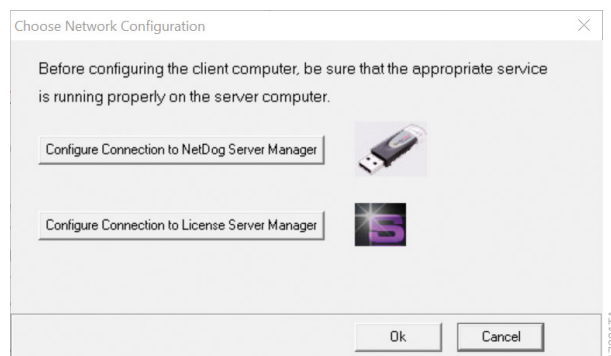

Figure 42. 'Choose Network Configuration' window.
4. Select **Configure Connection to License Server Manager** in the 'Choose Network Configuration' window (Figure 42).